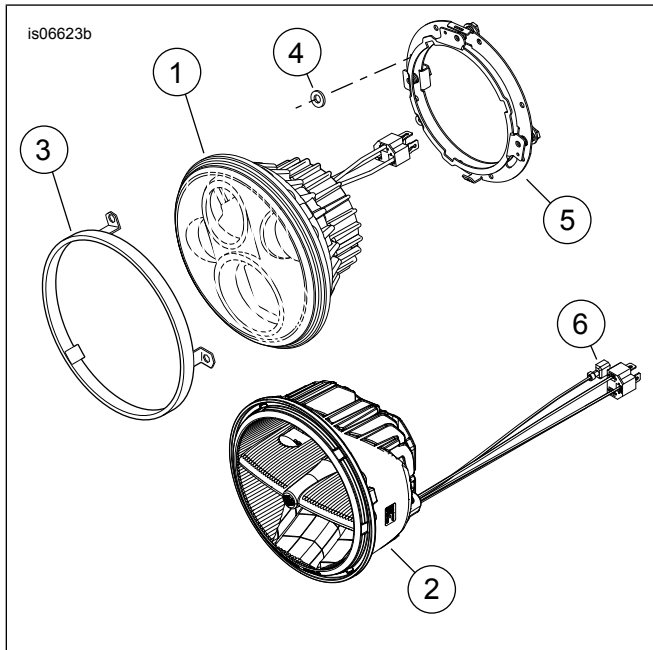

Figure 5. Service Parts: LED Headlamp Kit
See Figure 5 and Table 1.
- Domestic Models:** See Figure 5. The position lamp connector (6) is not used.